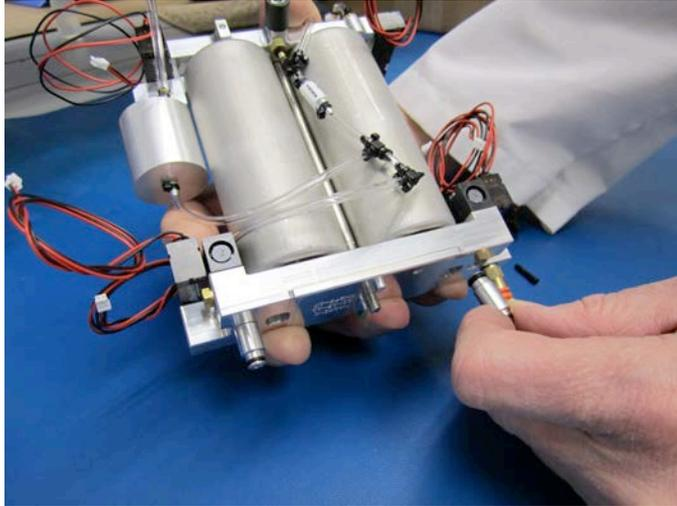

Figure 5.18
4. If either of the two fittings connecting the compressor to the manifold is connected to the compressor, remove it and insert it into the manifold. (See Figure 5.18.)